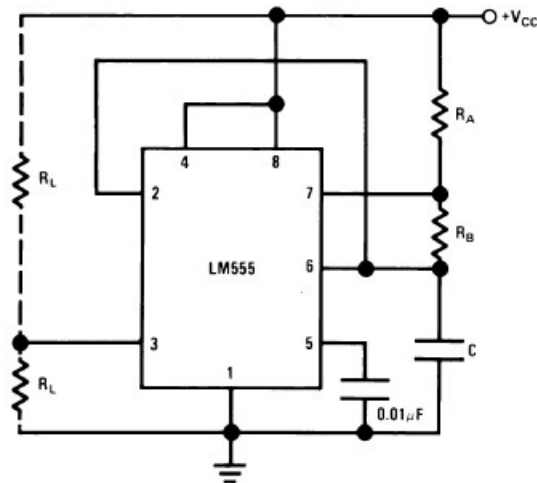

Figure 6 - Astable Operation
If the circuit is connected as shown in Figure 6 (pins 2 and 6 connected) it will trigger itself and free run as an oscillator (pulse train). In this mode of operation, the capacitor C charges and discharges between  $1/3 V_{CC}$  and  $2/3 V_{CC}$ . The external capacitor (C) charges through  $R_A + R_B$ ; and therefore, the charge time is given by